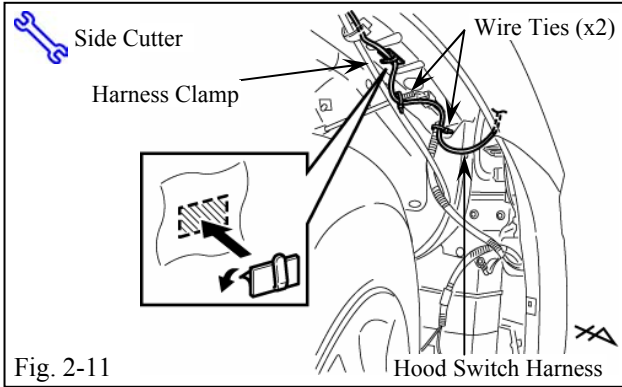

Fig. 2-11
- (n) Route the Hood Switch Harness into the Passenger Side Fender Area. (Fig. 2-11)
- (o) Secure it to the Vehicle Harness with 2 Wire Ties, and 1 Harness Clamp. (Fig. 2-11)
- (1) Bend the Harness Clamp Hook to secure the Hood Switch Harness.